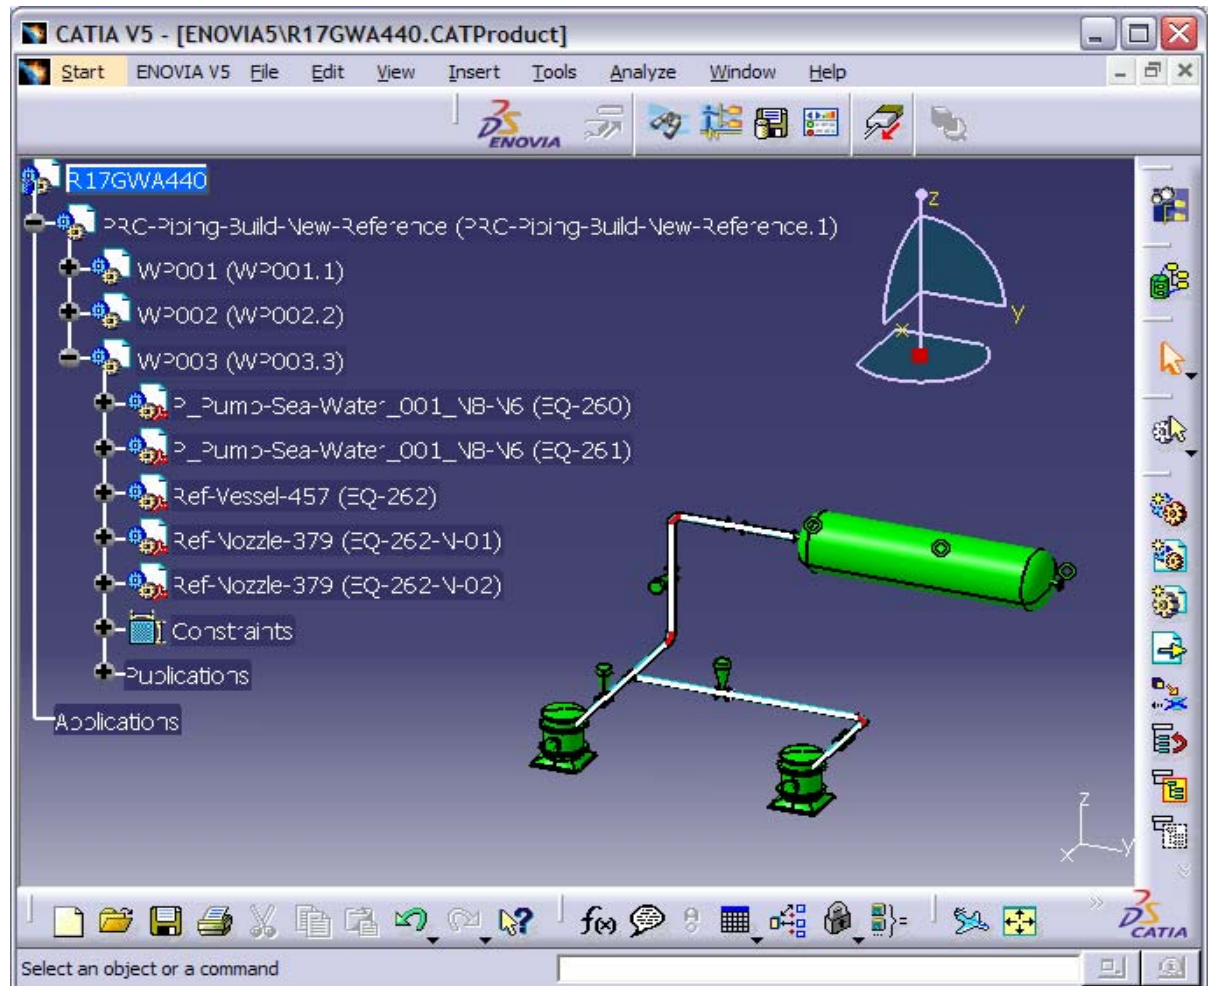

Figure 2: Product structure in CATIA
- 4 In the ENOVIA VPM V5 client, the structure now looks similar to the one given in Figure 2. The tool CATRpmPSU, started by the FileIntrospection, creates a structure report of the Work Package..